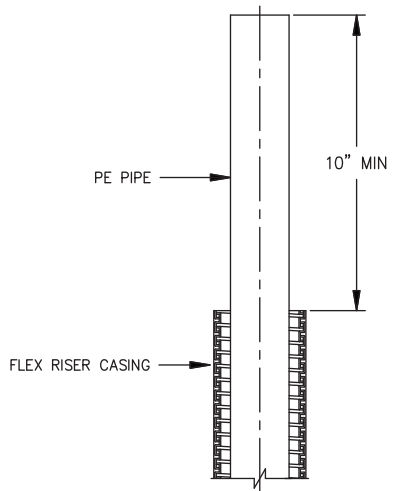

FIG. 1
1. VERIFY THAT THE ADAPTER COUPLING IS THE CORRECT SIZE FOR THE POLYETHYLENE (PE) PIPE. VERIFY THE SDR (OR WALL THICKNESS) OF THE PIPE MATCHES THE SDR (OR WALL THICKNESS) STAMPED ON END OF STIFFENER.
2. INSTALL PE PIPE THRU RISER, LEAVING 10" MINIMUM EXTENDING ABOVE RISER (FIG 1).